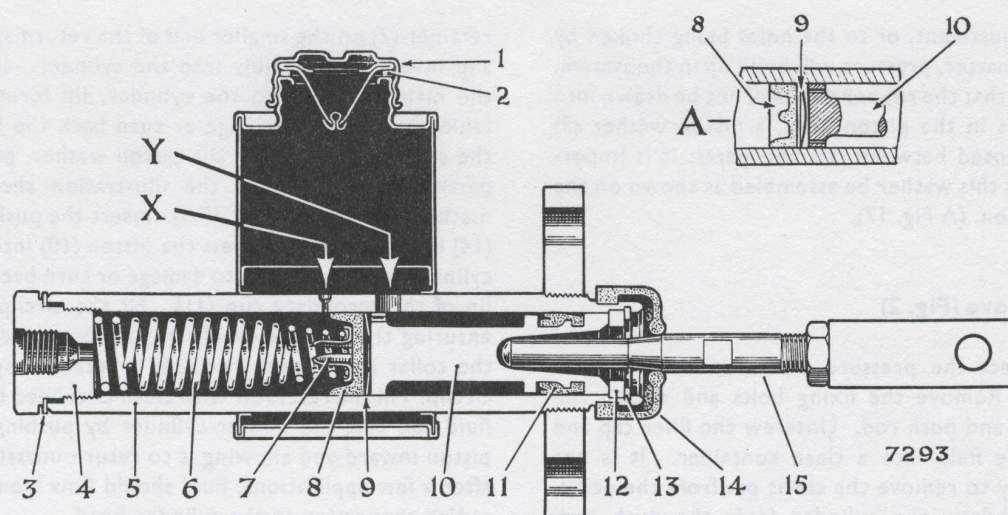

Fig. 17 Sectional view of master cylinder
A groove is formed round the edge of the master cylinder outlet plug (see item on fig. 17). This identifies it from the brake master cylinder, which has no groove. Clutch and brake master cylinders are not interchangeable, as the clutch master cylinder has no check valve. On cars with Servo assisted Brakes the Brake Master cylinder is larger.
This unit (Fig. 17) incorporates a fluid reservoir and a master cylinder. In front of the main rubber cup (8), when the system is at rest, is a by-pass port (X) which ensures that the system is full of fluid at all times, and allows full compensation for movement of the fluid due to changes of temperature. It also serves to release fluid drawn into the cylinder from the annular space formed by the reduced skirt of the piston (10), through the small holes in the piston, after each clutch application. If this additional fluid is not released to the reservoir through the by-pass port, due either to the hole being covered by the main cup as a result of incorrect
pedal adjustment, or to the holes being choked by foreign matter, pressure will build up in the system. In order that the rubber cup shall not be drawn into the holes in the piston head, a piston washer (9) is interposed between the two parts; it is important that this washer be assembled as shown on the illustration. (A Fig. 17).
To dismantle (Fig. 17)